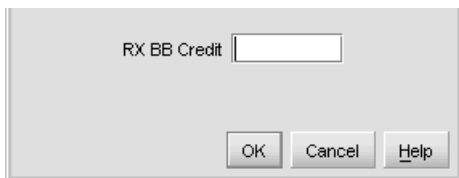

Figure 30 RX BB Credit dialog box
- a. Right-click in the RX-BB Credit column to display the RX BB Credits dialog box as shown in Figure 30: